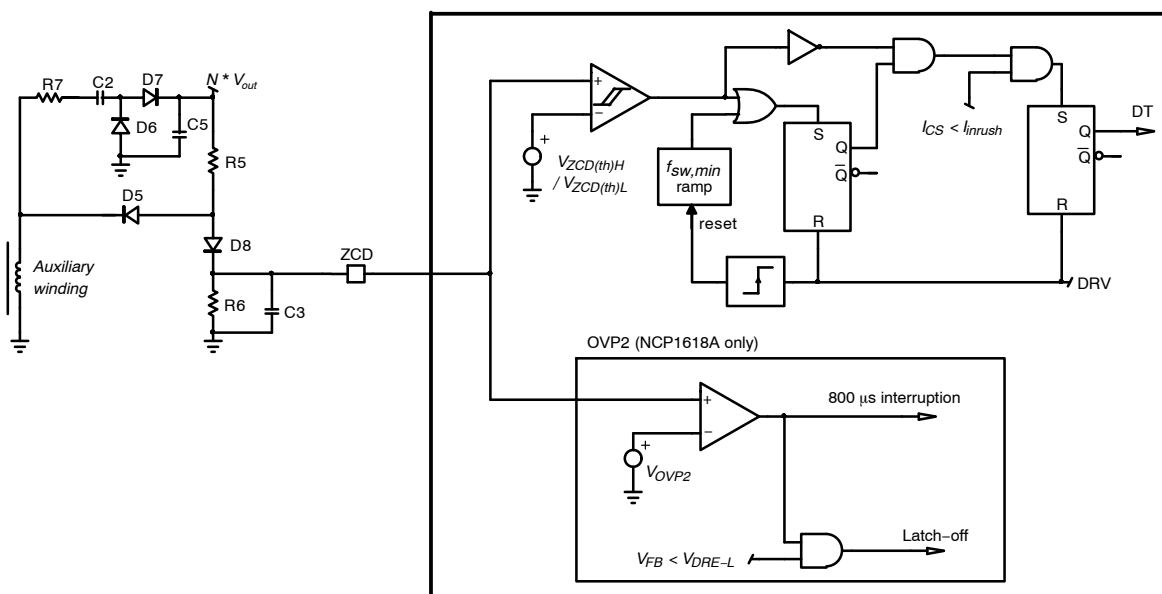

Figure 10. Zero Current Detection Block
Application note AND90011 discusses recommended circuitries for an accurate ZCD and OVP2 detections. Figure 10 provides one of these circuitries. In this circuit, R_1 being small, capacitor C_1 is charged to
Figure 10 shows how the NCP1618 detects the valley. An internal comparator detects when ZCD pin voltage exceeds an upper threshold V_{ZCDH} (1 V typically). When this is the case, the inductor core is resetting and the ZCD latch is set. This latch will be reset when the next driver pulse occurs. Hence the output of the latch remains high during the whole off-time (demagnetization time + any possible dead time). The output of the comparator is also inverted to form
- The ZCD pin impedance (for instance R_3 of Figure 10), must be higher than 7.5 k Ω not to trigger the ZCD pin short–to–ground protection.
If no ZCD can be detected when the circuit operates in FCCrM mode, the circuit cannot use the valley detection to start a new current cycle. In this case, the next DRV pulse is forced by the DCM minimum frequency ramp ($f_{sw,min}$ ramp of Figure 10) which acts as a watchdog.
- If the pin is grounded, no falling edge of the auxiliary winding can be detected. The DRV remains off until the DCM minimum frequency ramp initiates a new cycle. Before the new pulse is generated, the circuit senses the pin impedance by sourcing 250 μ A. No DRV pulses are generated until the pin voltage exceeds V_{ZCDH} . Hence, the part is inhibited when the pin is grounded. Not to trigger this protection, the pin impedance (for instance R_3 of Figure 10, must be higher than 7.5 k Ω).